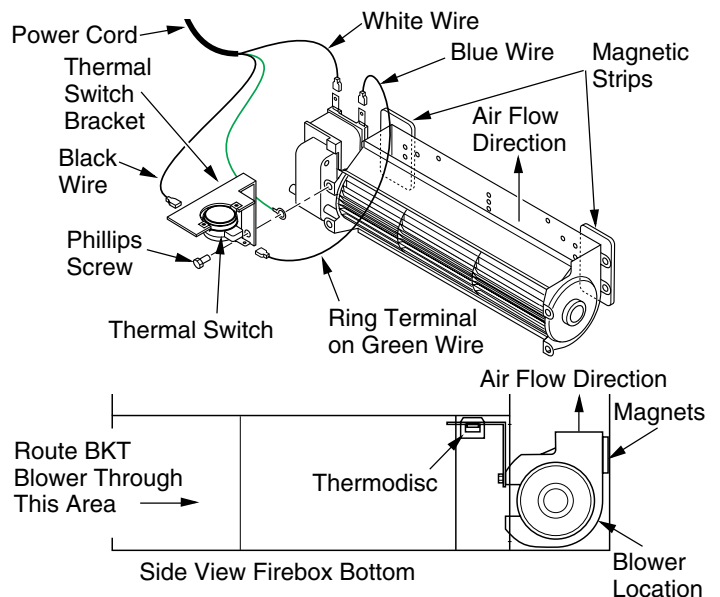

Figure 28 - Blower Model BKT
1. Place the green ground wire with ring terminal between the bottom hole on the thermal switch bracket and the top ear hole on the blower assembly. Insert the phillips screw into all three pieces and tighten securely (see Figure 28).
3. Place the blower against the lower rear wall of the firebox outer wrapper with the exhaust port directed upward and the thermodisc positioned up near the fireplace bottom. The thermodisc must be oriented near the fireplace bottom as shown in Figure 28, page 17, in order to sense temperature and properly operate. The blower will be held in position against the back wall by the magnets incorporated onto the blower housing (see Figure 28, page 17).